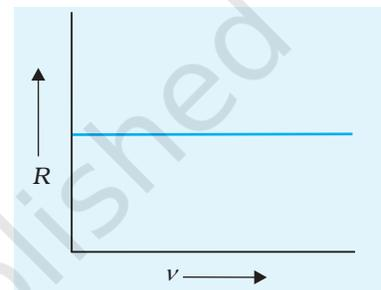

Fig. P 7.7 Variation of R with ν
- (ii) If the inductor of inductance L is replaced by a carbon resistor (or any non-inductive resistor) and the experiment is repeated, then $V/I = R$ for all frequencies, so the graph between R versus ν is a straight line parallel to ν -axis (Fig. P 7.7). Resistance is independent of frequency.